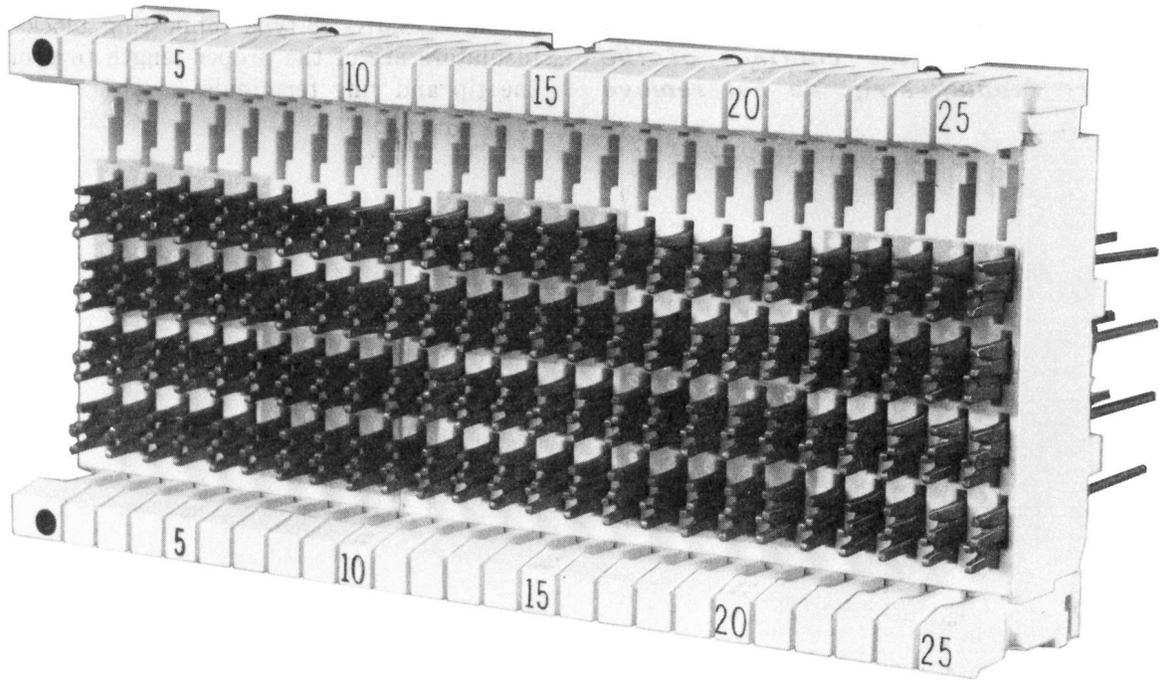

Fig. 1—50-Pair Connecting Block
- 50-pair blocks (Fig. 1) consisting of 2-paired rows by 25 columns. Ten 50-pair blocks can be installed on each COSMIC module shelf numbered 1 and 11.